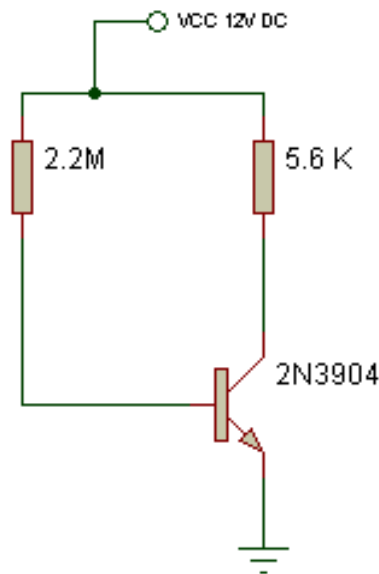

Figure 7
1. Set the components into the board according to the schematic shown in figure 7.